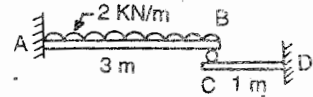

Fig. 9.55
5. A cantilever AB 3 metres long carries a u.d.l of 12 KN/m rests on an other cantilever CD of 1 metre span as shown in figure 9.55 calculate the reaction at C (13.01 KN)